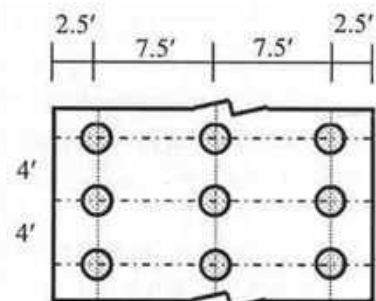

Fig. 4(b)
- Draw the pressure diagrams to be used for the heel and toe of the wall [shown in Fig. 4(a)].